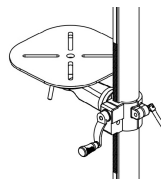

Fig. 10
1. Raise or lower the table by loosening the arm locking handle and turning the crank: clockwise to raise and counterclockwise to lower (Fig. 10).